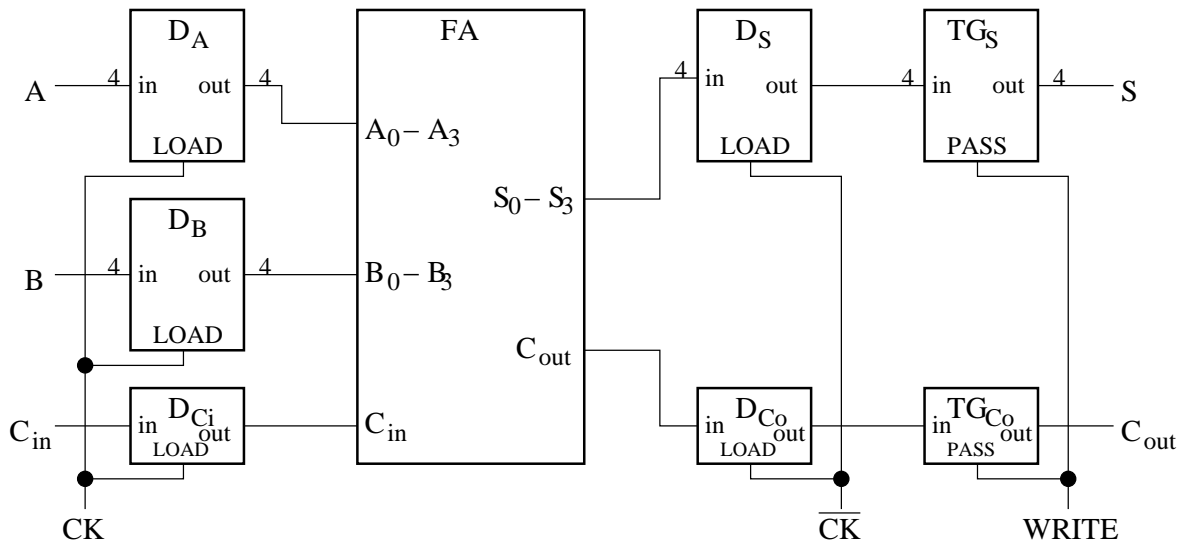

Figure 5: A 4-bit Parallel Adder block diagram
1. Design a 4-bit CMOS Parallel Adder circuit as it is shown in Fig. 5.